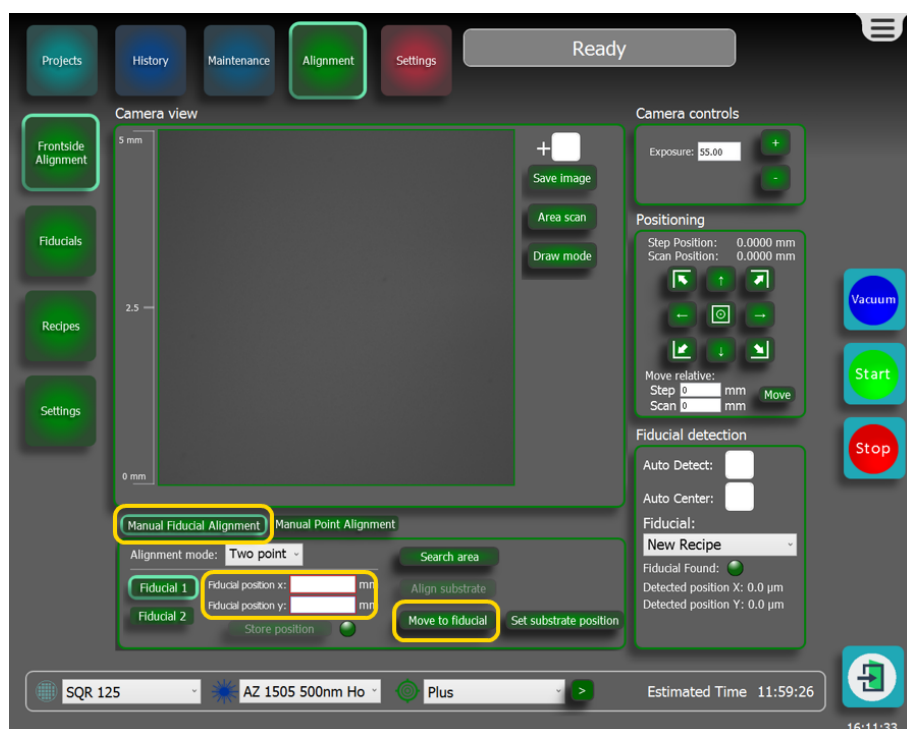

Figure 3-80 Going towards marker position
3. Select **Manual Fiducial Alignment**, see Figure 3-80.
4. At **Fiducial position x** and **Fiducial position y** (see Figure 3-80), fill in the expected fiducial marker position that you calculated.